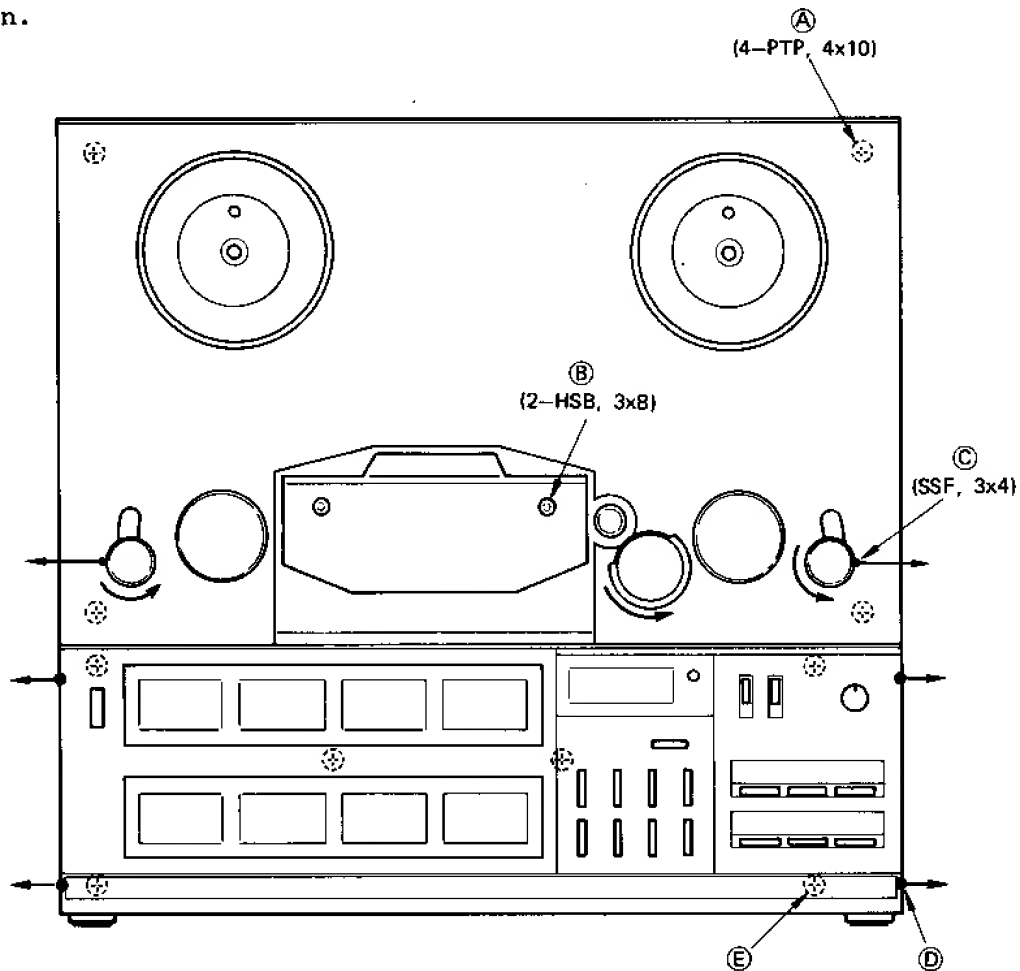
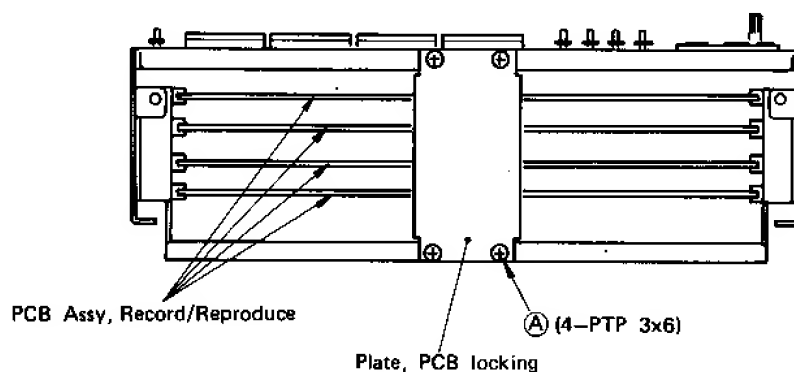

Fig. 6-2
Fig. 6-3
2) Tape transport panel (Fig. 6-2)
* With the bottom cover removed, unscrew the four truss head 4 X 10 self tapping screws (A) from the bottom side.
3) Amplifier panel (Meter and control panel, Fig. 6-2)
- * With the bottom cover removed, as in previous item 1), remove two upper and lower screws on the panel side, from among the six (D) screws on both sides of the amplifier section.
- * Then, draw out the panel section and remove the dress panel by unscrewing the six screws (E) from the underside of the panel.
4) Record/reproduce PCB (Fig. 6-3)